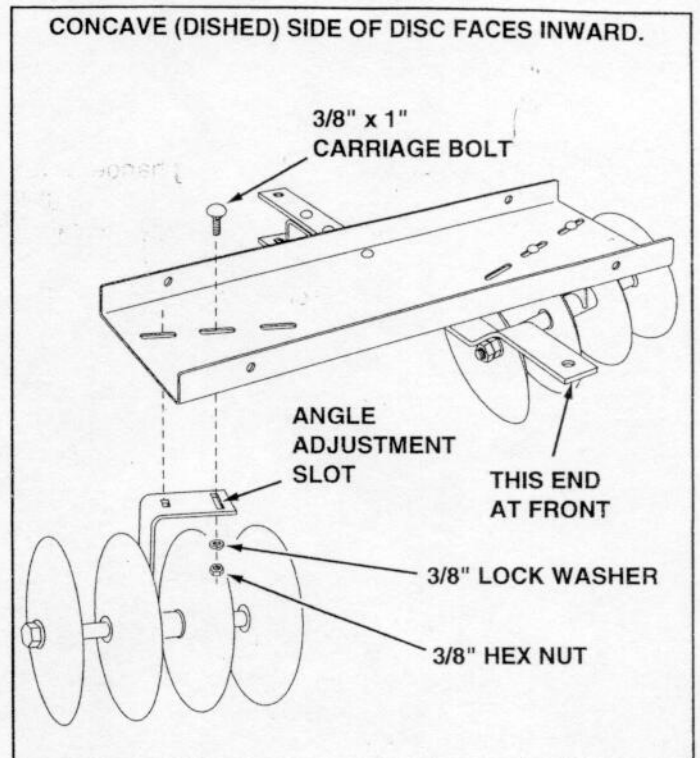

FIGURE 6
6. Assemble the disc assemblies to the **outer** slots in the tray using four  $3/8"$  x  $1"$  carriage bolts,  $3/8"$  lock washers and  $3/8"$  hex nuts. Swivel the disc assemblies so that the carriage bolt is centered in the angle adjustment slot. This places the discs at the standard 15 degree angle. **Tighten.** See figure 6.